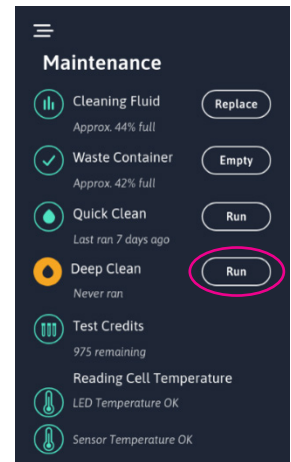

Figure 34
1. Press Deep Clean “Run” button in the Maintenance sub-menu to start a Deep Clean (Figure 34). The analyzer will check for sufficient iWASH and iWASTE bottle volumes and prompt to replace if insufficient. If sufficient volume, the analyzer will prompt user to insert the Cleaning Solution.